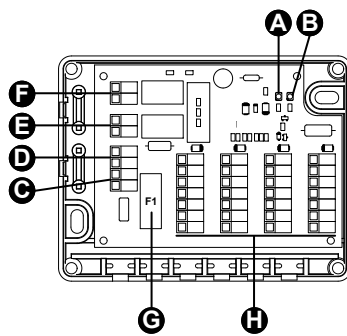

Fig. 3: Internal view of components.
The two terminals (see item ①, Fig. 3) allow the installer to connect an external timeswitch which will enable global time control of all 4 zones.
The electronic circuitry and loads are protected by the 4A time-delay fuse **F1** (Ⓢ Fig. 3).